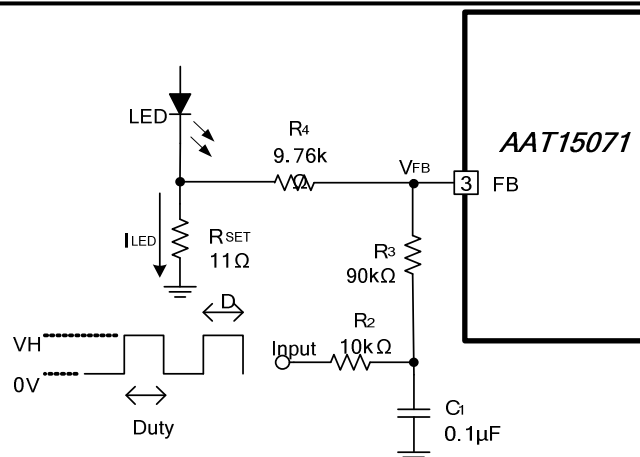

Figure 4. Dimming Control Using Filtered PWM Signal
(3) LED dimming control using filtered PWM signals received by FB pin is shown in Figure 4. Filtered PWM signal can replace the variable DC voltage source in dimming control. For the PWM signal ranging from 0V to 3.3V, users should select R_{SET} , R_2 , R_3 , R_4 and C_1 to supply 0mA to 20mA current to the dimming control of LED current.